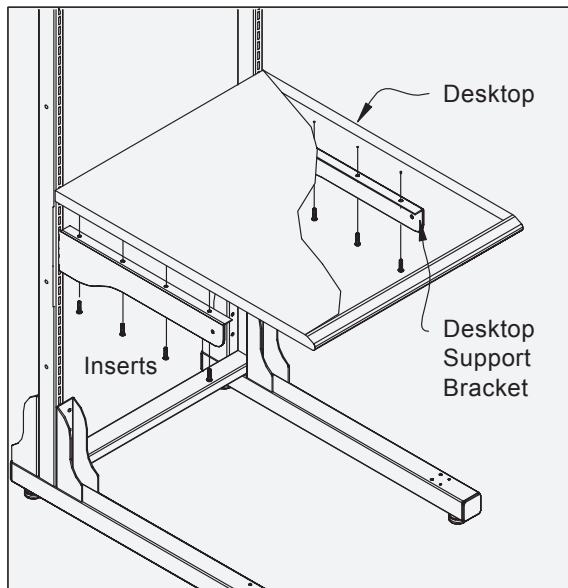

Fig. 12B
- B. Line up Desktop Inserts with bracket holes and firmly attach the Desktop surface to the brackets using a Phillips Head Screw Driver (Fig. 12B).